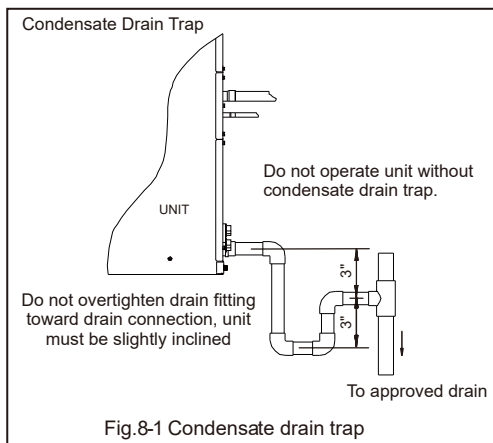

Fig.8-1 Condensate drain trap
- Make provisions for disconnecting and cleaning of the primary drain line should it become necessary. Install a 3 inch trap in the primary drain line as close to the unit as possible. Make sure that the top of the trap is below connection to the drain pan to allow complete drainage of pan (See Fig. 8-1).